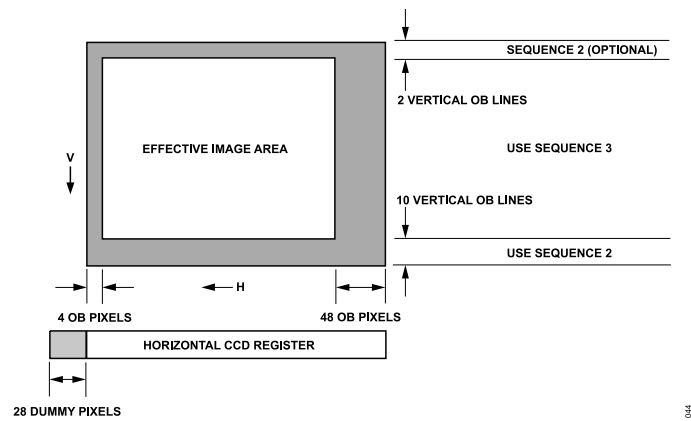

Figure 44. Example CCD Configuration
Figure 44 shows an example CCD layout. The horizontal register contains 28 dummy pixels, which occur on each line clocked from the CCD. In the vertical direction, there are 10 optical black (OB) lines at the front of the readout and two at the back of the readout. The horizontal direction has four OB pixels in the front and 48 in the back.